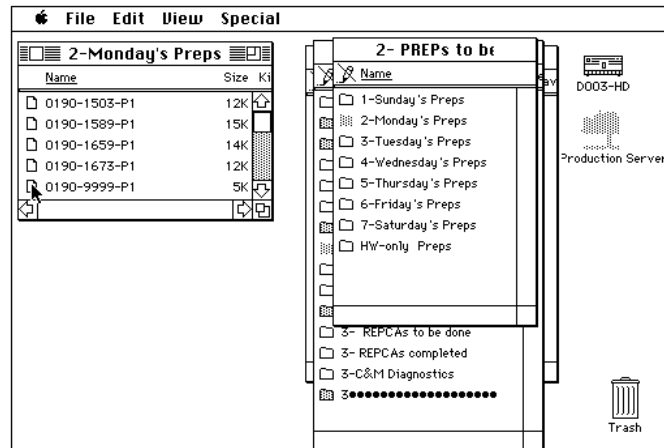

Figure 7
- 10.3 Position the mouse pointer on the appropriate test number and double click to open it. See Figure 7. If the test number cannot be located, contact the senior technician.